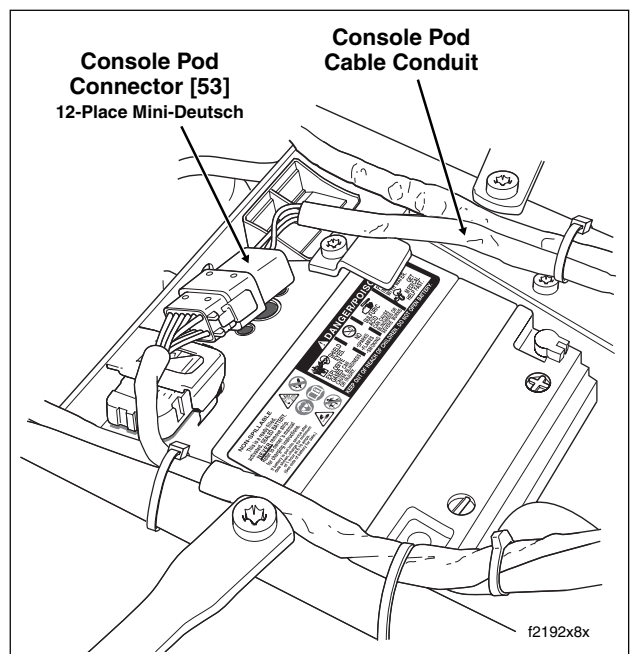

Figure 8-139. Disconnect Console Pod Connector
10. Release Console Pod Connector [53], 12-place Mini-Deutsch, from attachment clip anchored in hole of frame crossmember (at rear of battery box). See Figure 8-139. Depress external latches and use a rocking motion to separate pin and socket halves.